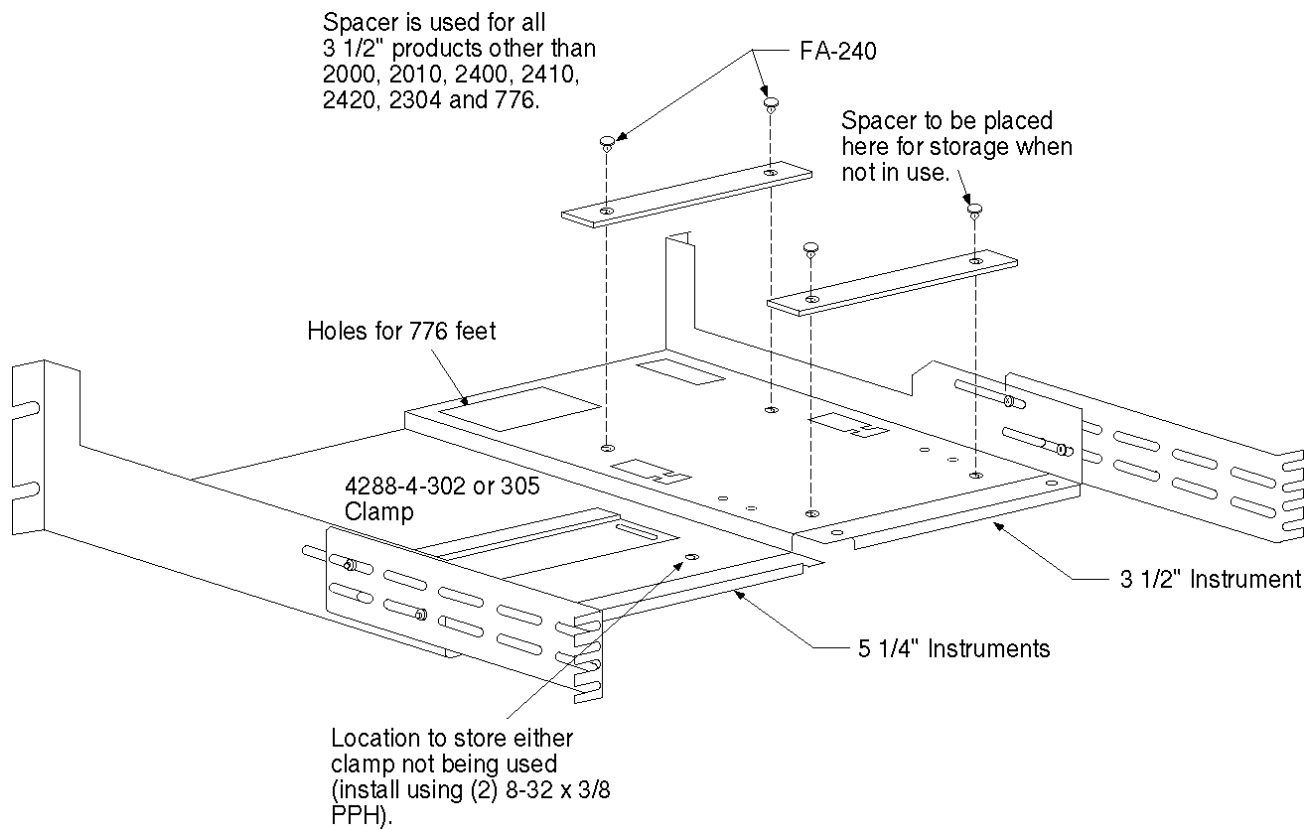

Figure 3
6. Install spacer (see Figure 3).